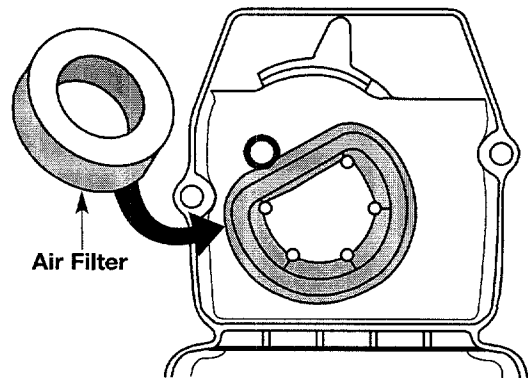

Figure 24
4. Remove the air filter from behind the air filter/muffler cover. See Figure 24.
7. Replace the air filter inside the air filter/muffler cover. See Figure 24.